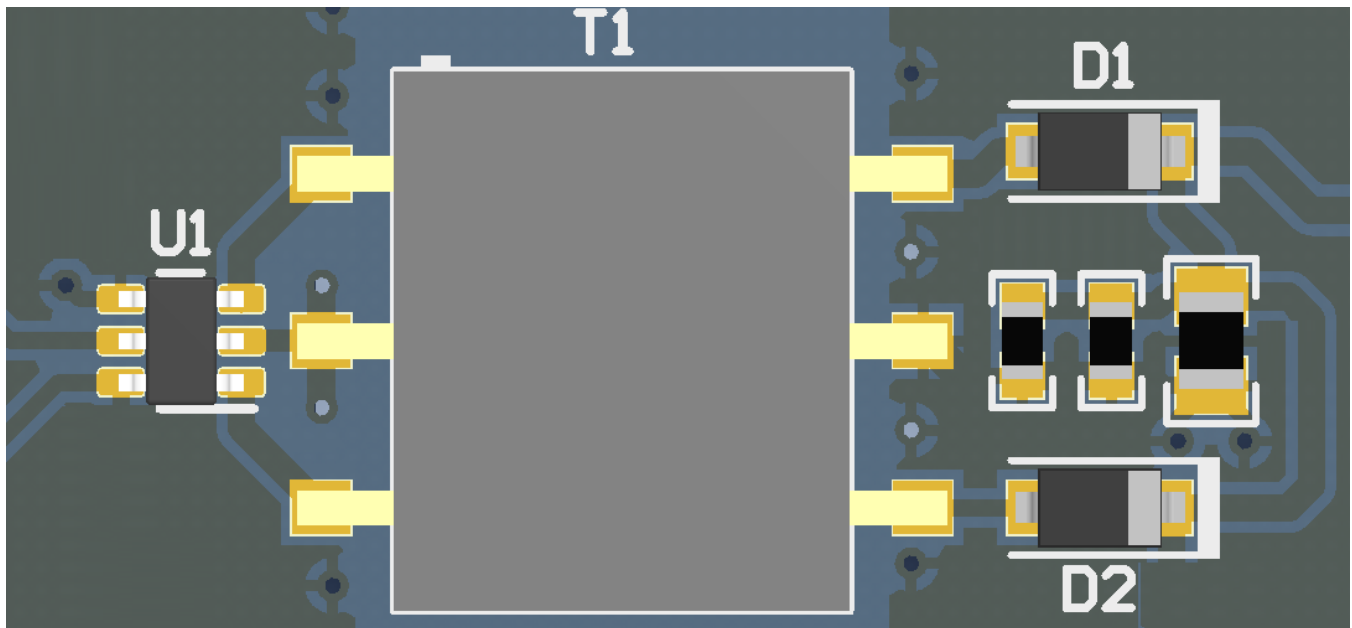

图 52. Layout Example of a 2-Layer Board
- The optimum placement is closest to the  $V_{\text{IN}}$  and GND pins at the board entrance to minimize the loop area formed by the bypass-capacitor connection, the  $V_{\text{IN}}$  terminal, and the GND pin. See 图 52 for a PCB layout example.